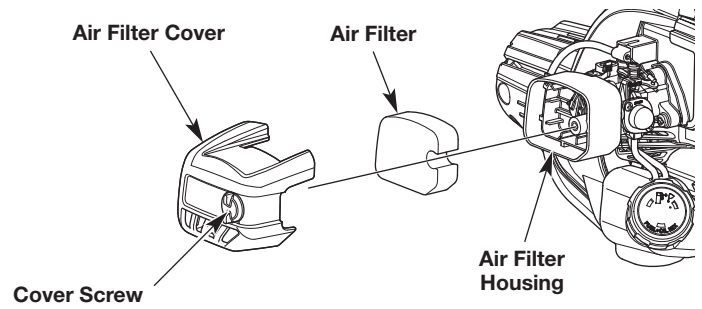

Fig. 14
1. Open the air filter cover by unscrewing the cover screw (Fig. 14).
2. Remove the air filter from the air filter housing (Fig. 14).
6. Reinstall the air filter in the air filter housing (Fig. 14).